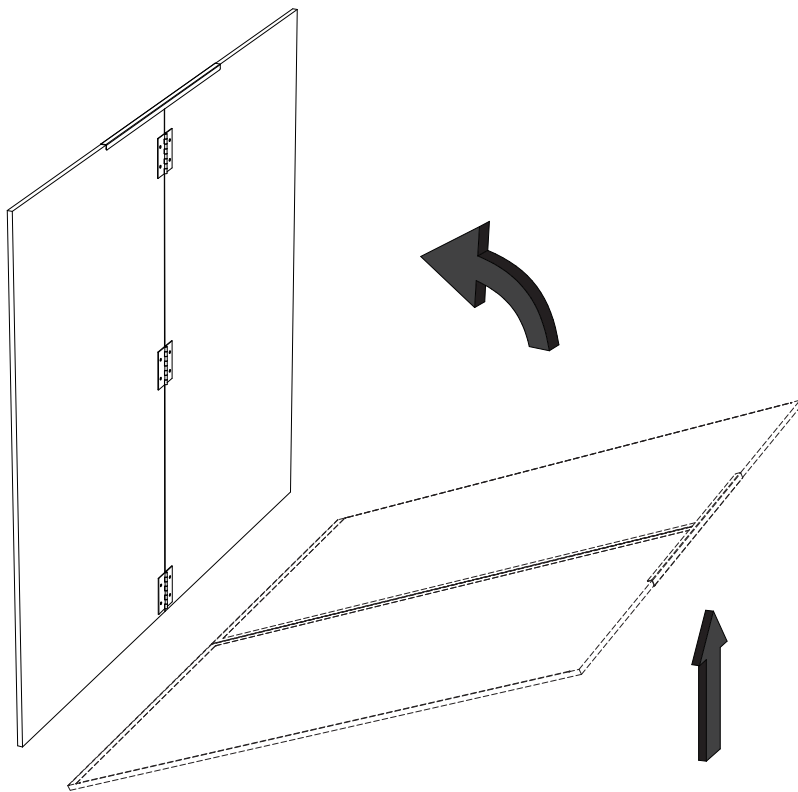

Figure 5
3. With the aid of another adult, lift one top from table and stand it on its end that does not have stiffener. See Figure 5.